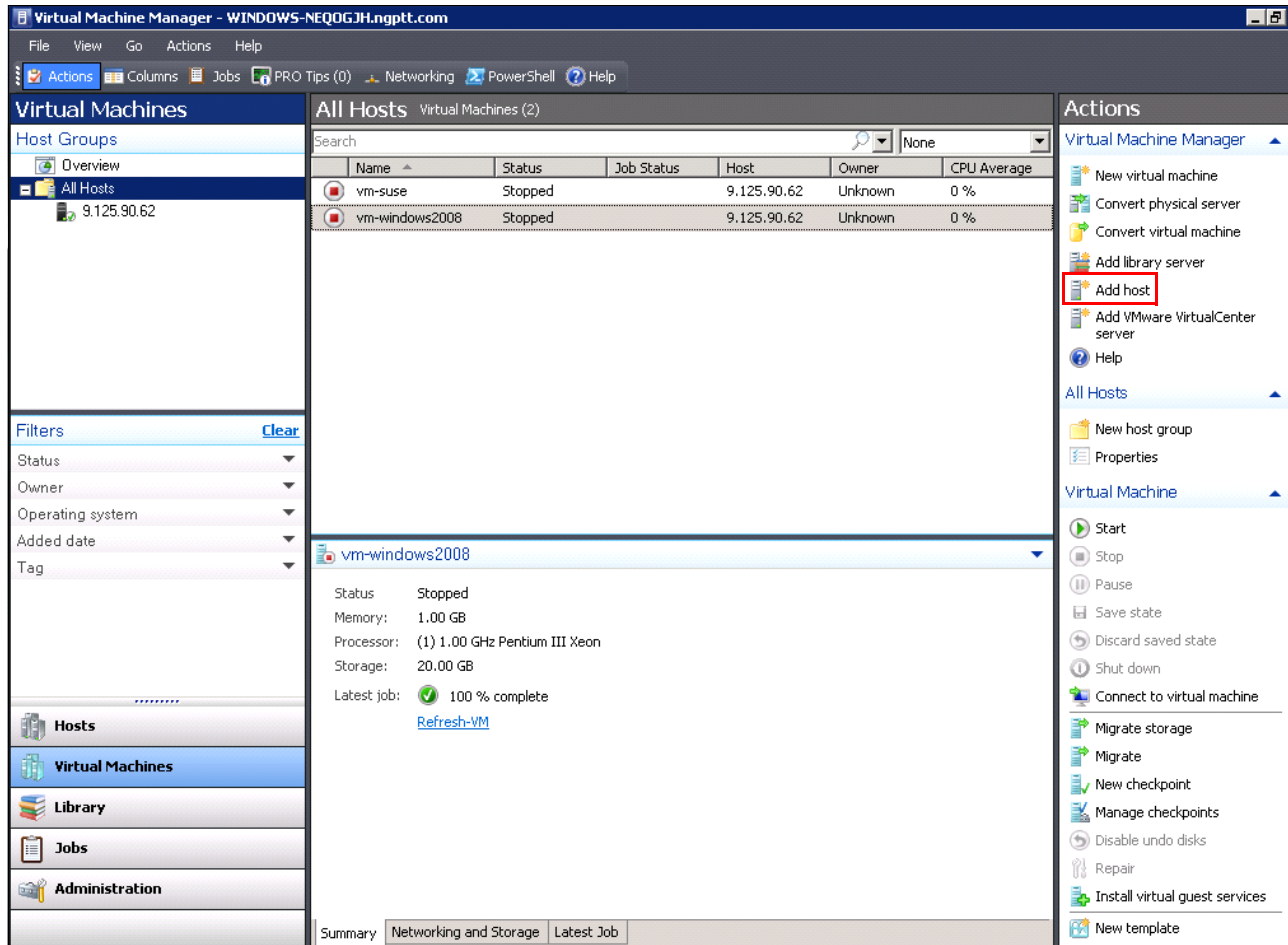

Figure 3-1 SCVMM main window
1. Open the System Center Virtual Machine Manager (SCVMM) Console on the management server. Click **Add host** to add the destination server to the VMM pool, as shown in Figure 3-1.